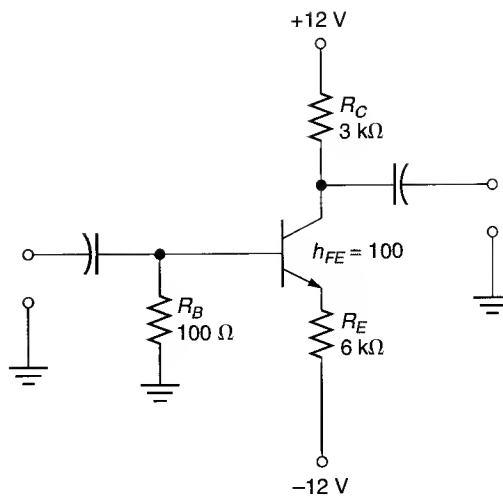

FIGURE 7.38
29. Determine the values of I_{CQ} and V_{CEQ} for the circuit shown in Figure 7.38.
30. For the circuit shown in Figure 7.38, *double* the values of R_C and R_E . Now, recalculate the output values for the circuit. How do these values compare with those obtained in Problem 29?
31. Calculate the values of $I_{C(sat)}$ and $V_{CE(off)}$ for the circuit shown in Figure 7.38. Use the original component values.
32. For the circuit shown in Figure 7.38, *double* the values of R_C and R_E . Now, recalculate the values of $I_{C(sat)}$ and $V_{CE(off)}$. How do these values compare with the ones obtained in Problem 31?